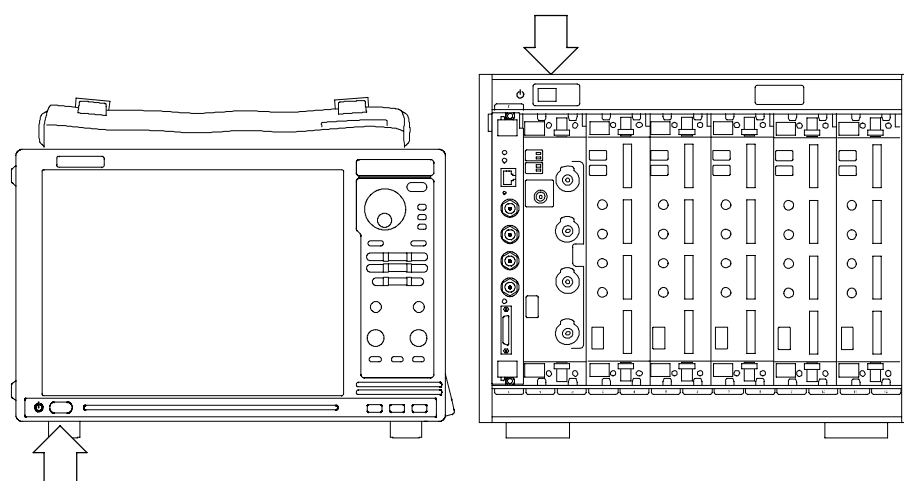

Figure 19: TLA7000 On/Standby switch locations
4. Press the On/Standby switch to turn on the mainframe (see Figure 19 for the switch location).